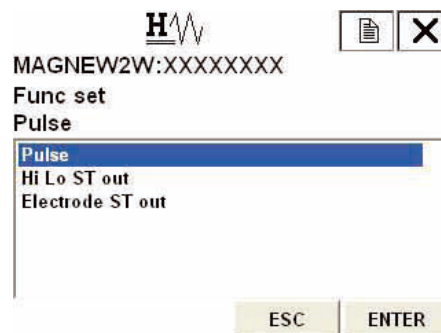

Figure 7-15
Figure 7-15 will then be displayed.
2. Once the display as shown in Figure 7-15 appears, move the arrow key up or down to select a display. After making a selection, press F4 (ENTER). Pulse (Pulse output), Hi Lo ST out (contact output), or Electrode ST out (contact output) can be selected. If F3 (ESC) is pressed here, the selection will be canceled and the display will return to the basic menu.